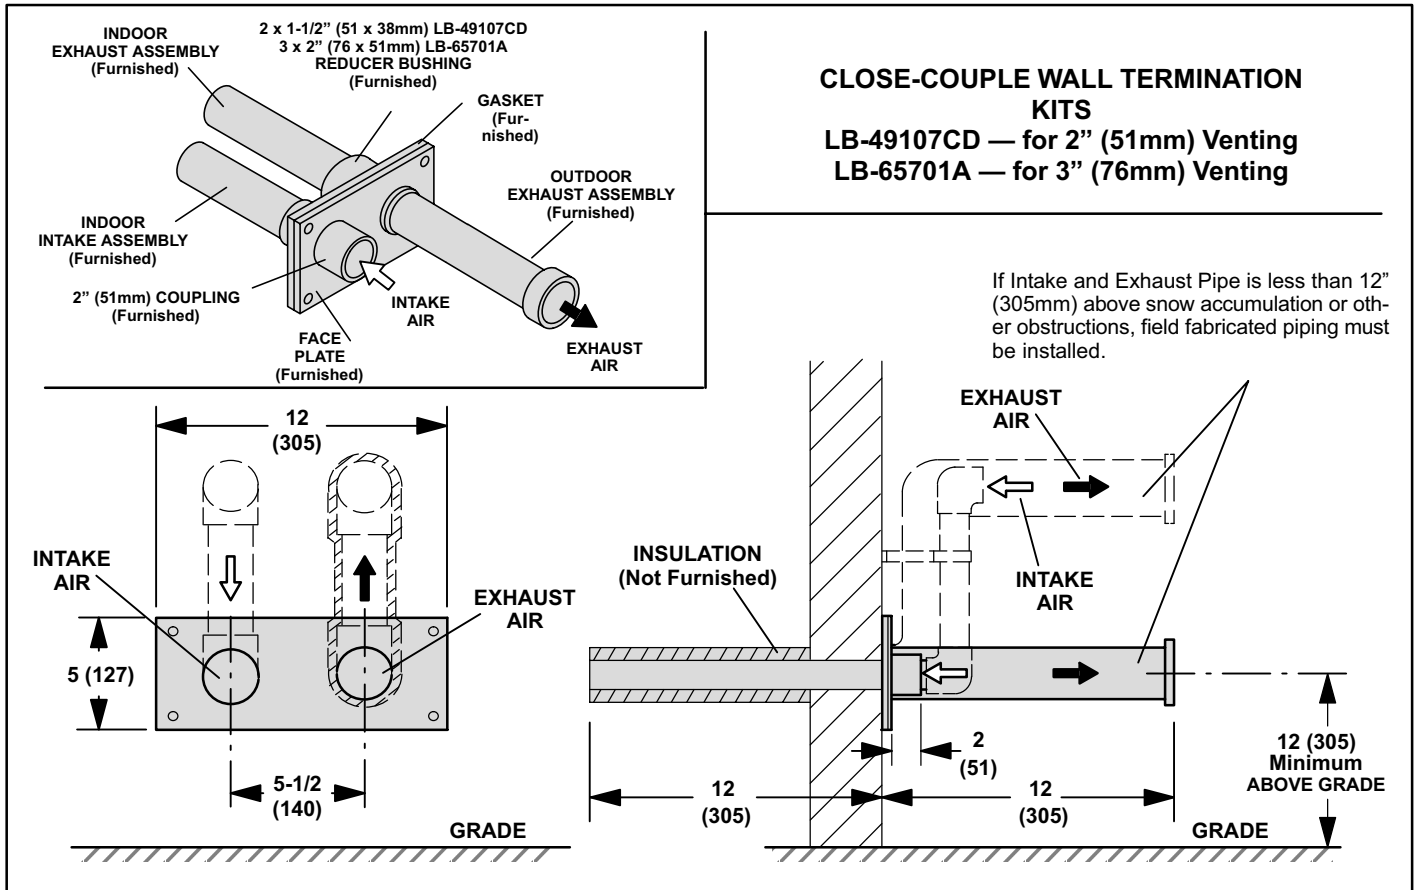

FIGURE 32
- 8 - If intake and exhaust piping must be run up a side wall to position above snow accumulation or other obstructions, refer to figure 32 for proper piping method. Piping must be supported every 3 ft. (.91m) as shown in figure 28 and must be insulated. When exhaust and intake piping must run up an outside wall, the exhaust piping is reduced accordingly after the final elbow.